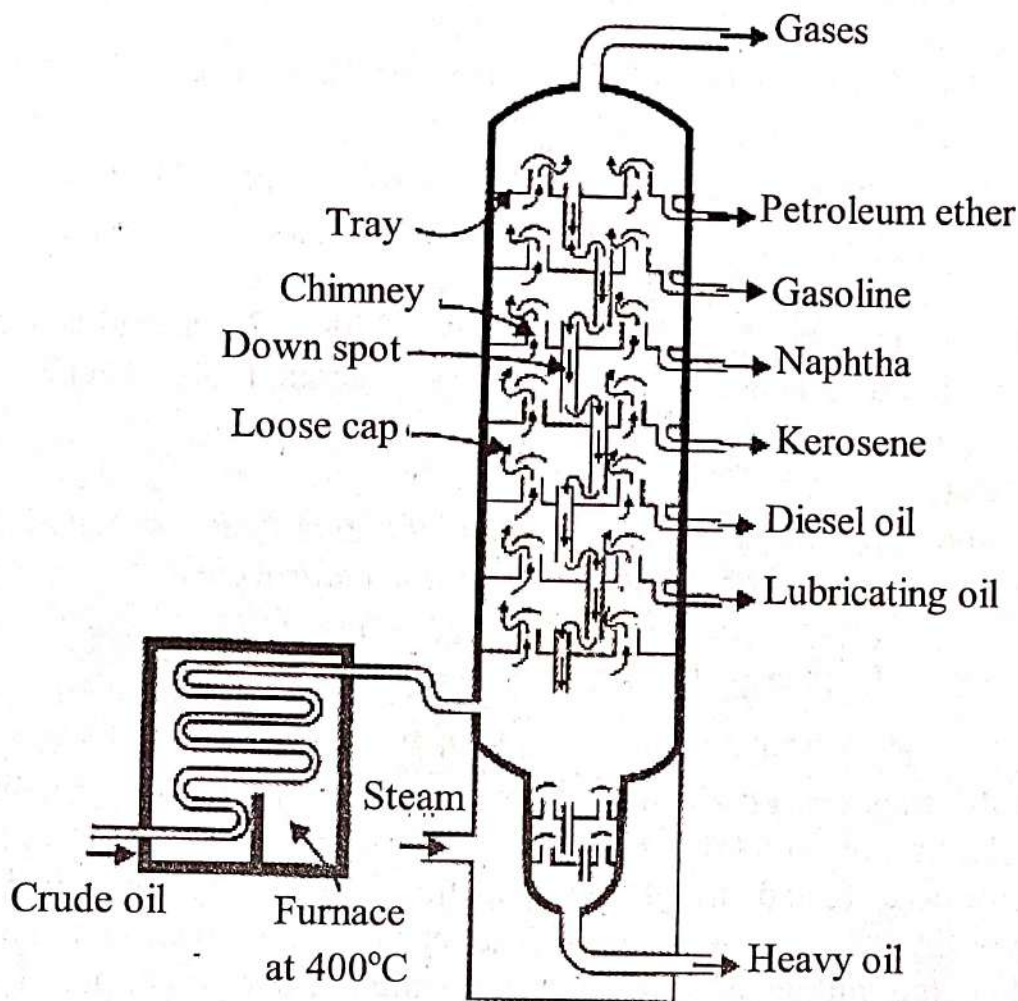

Fig.5A.3: Fractional distillation of crude petroleum
**Construction:** A simple sketch of bomb calorimeter is shown in Fig.5A.1. It consists of strong cylindrical stainless steel bomb in which the combustion of fuel is carried out. The bomb has a lid, which can be screwed to the body of bomb so as to make a perfect gas tight seal. The lid is provided with two stainless steel electrodes and an oxygen inlet valve. To one of the electrodes, a small ring is attached. In this ring, a nickel or stainless steel crucible can be supported. The bomb is placed in a copper calorimeter which is surrounded by an air jacket and water jacket to prevent heat loss due to radiation. The calorimeter is provided with an electrically operated stirrer and Beckmann's thermometer, sensitive enough to read up to 0.01°C